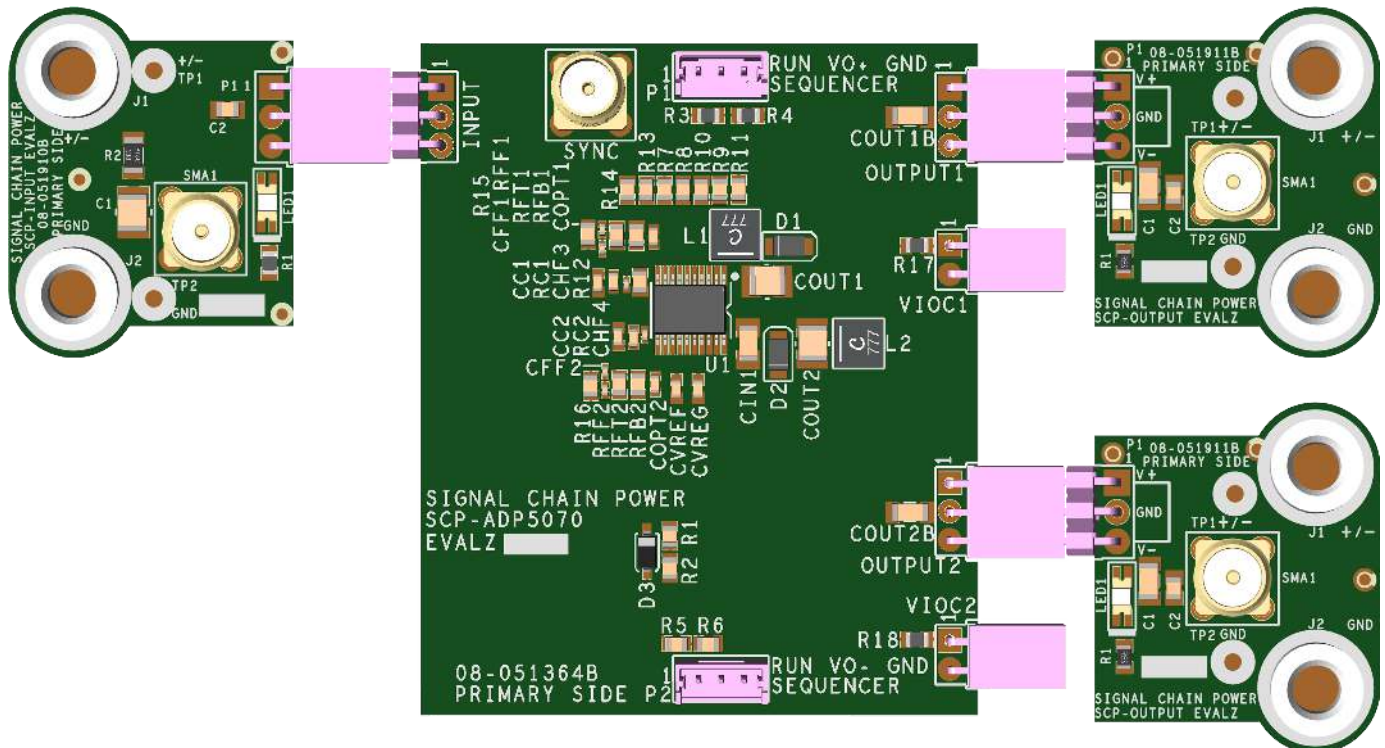

Figure 2. Proper Measurement Equipment Setup (Use SMA connectors for Measuring Input or Output Ripple)
2. Connect the SCP-INPUT-EVALZ and SCP-OUTPUT-EVALZ boards to the SCP-ADP5070-EVALZ (refer to Figure 2) and connect the input board to a voltage source, V_{SOURCE} . Connect the output board to a voltmeter or dynamic load. Slowly raise the input voltage until the SCP-ADP5070-EVALZ powers up into regulation and sweep V_{SOURCE} through the desired range of operation.